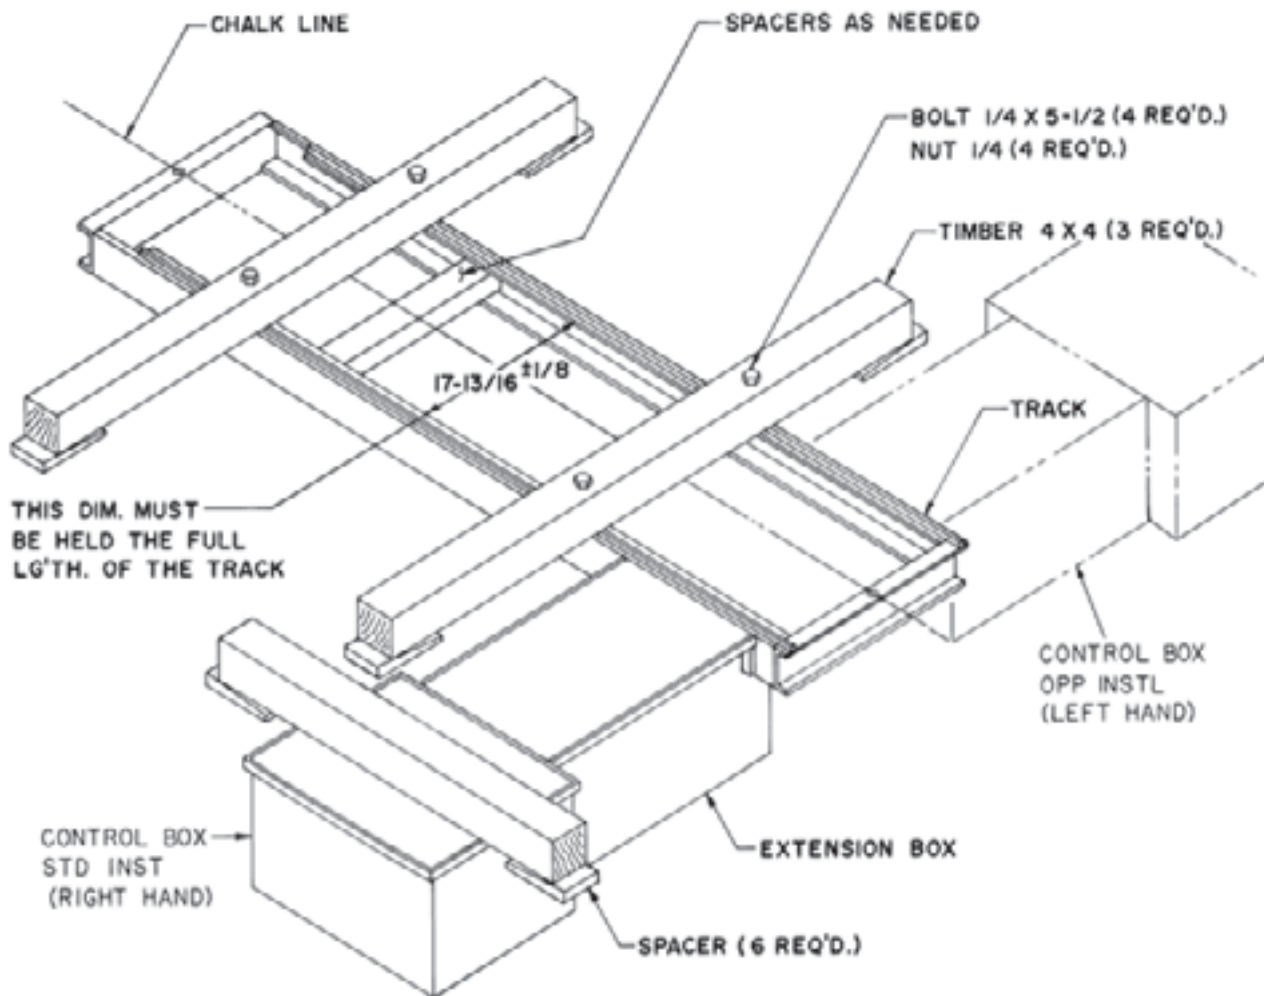

Fig. 3
LOCATION OF THE LIFT CONTROL VALVES per Fig. 3 (Page 8), Fig. 13 (Page 20), and Fig. 15 (Page 21). Controls should be located to give the operator a clear unobstructed view of the front and rear pistons of the lift.
- B. Place wooden spacers in the track to maintain 17-13/16"±1/8" between the sides of the track. This 17-13/16"±1/8" dimension must be within tolerance specified for the full length of the track as shown in Figure 3.
- C. Attach two 4" x 4" timbers across the top of the track and one across the control box as shown in Figure 3. Place into correct position over excavation. 1/8" holes are provided in front and rear of track as reference points for the fore-and-aft center line. Shim under each end of the timber so that the top flange surface of the track, the cover of the extension box and control box are flush and level with the finished floor.